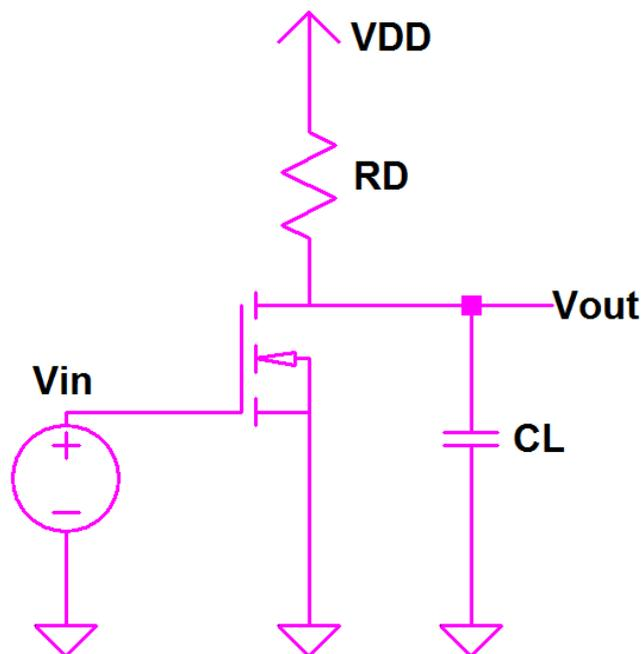

Fig. 6: NMOS inverter circuit schematic
8) Now, consider the circuit in Fig. 6 and think about the rise and fall times of this inverter circuit when a square wave signal is applied at the input. Try to answer the following questions qualitatively by explaining your reasoning.